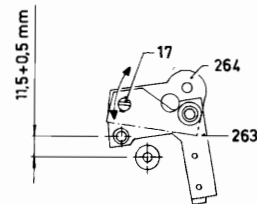

Fig. III-9
- The distance between the pin of the cassette release and the lay-on point of the cassette must be $11,5+0,5$ mm centre-to-centre (Fig. III-9).